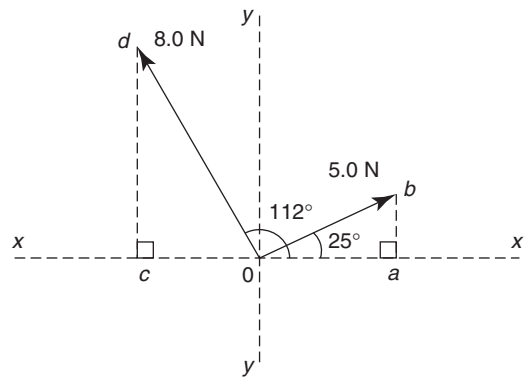

Figure 3.26
The space diagram is shown in Figure 3.26.
**Hence the resultant of the two forces shown in Figure 3.26 is a force of 9.653 N acting at 80.85° to the horizontal.**